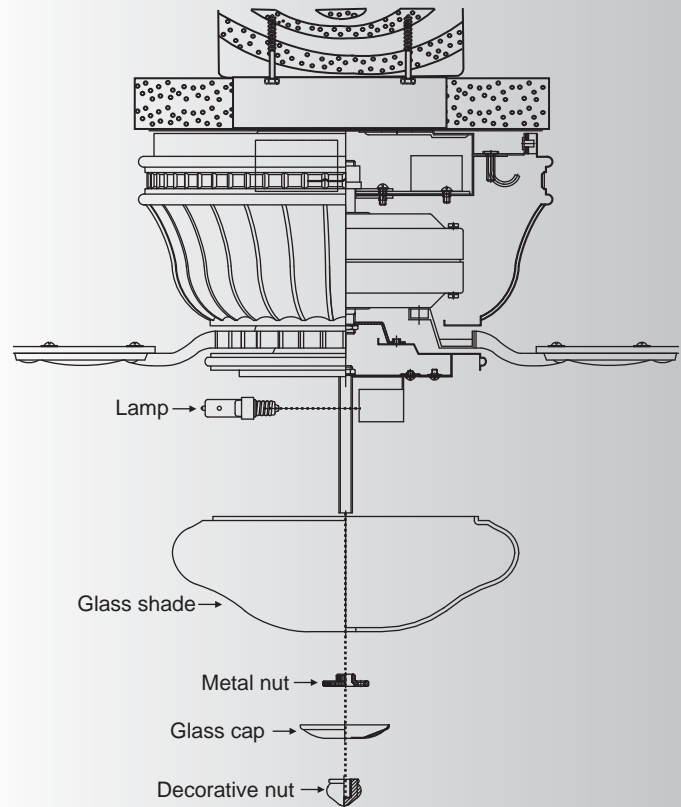

Fig. 15
1. Install 3, E-12 40 Watt T-3 Krypton lamps (provided). (Fig. 15)